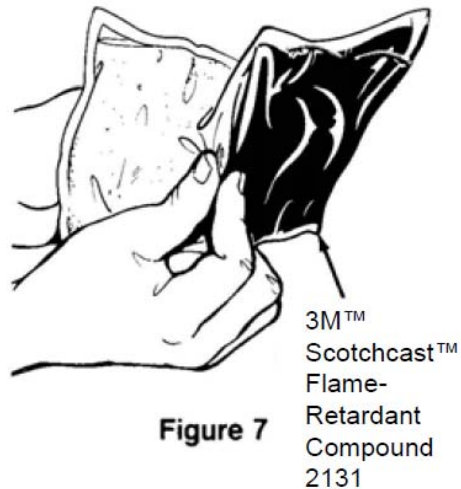

**Figure 6**
- Make a straight knife slit in cover of closed carton that is slightly longer than the mold's hinge. (Figure 6)
- Position carton beneath splice and press the mold's hinge into the knife slit. This holds splice in position for compound pouring. (Figure 6)